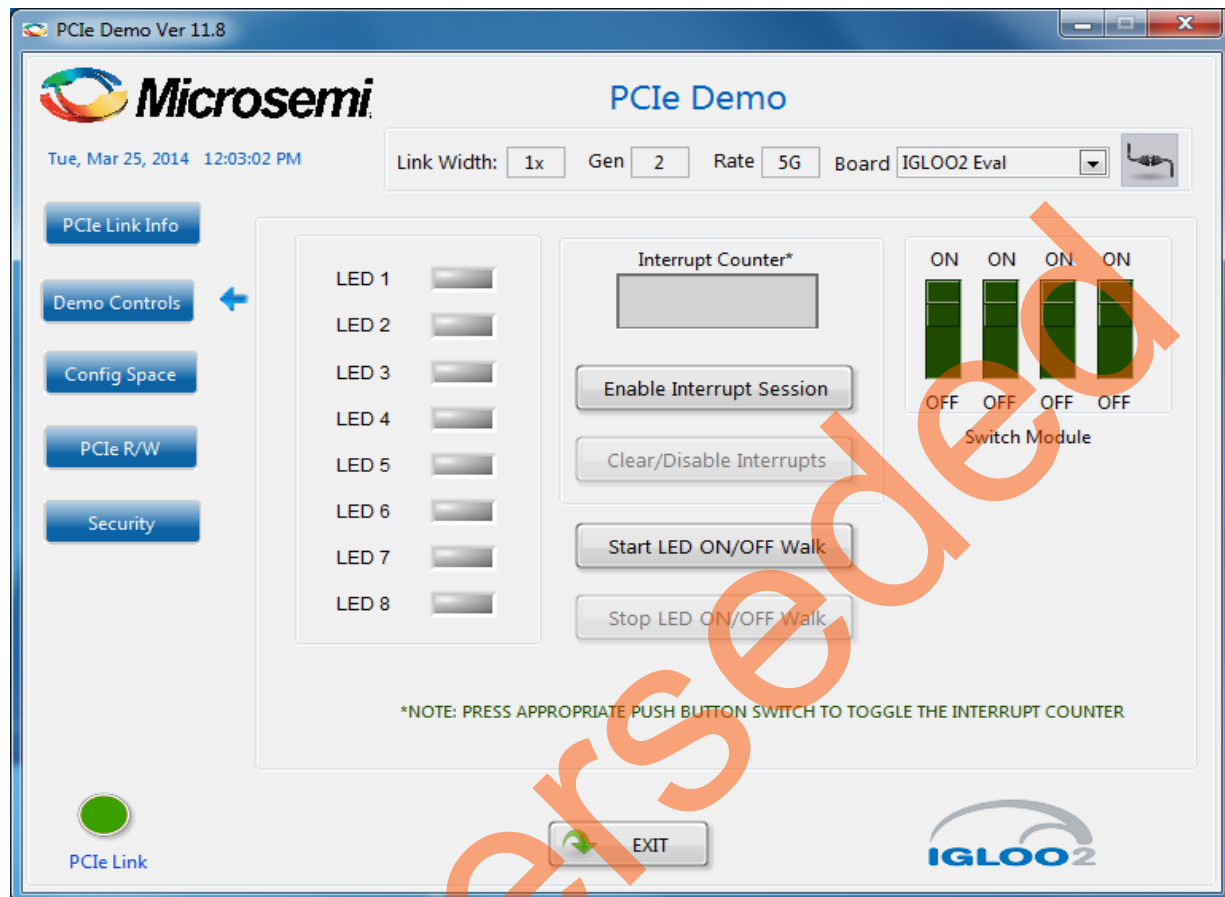

Figure 20 • Demo Controls
- Clicking **Demo Controls** in the GUI displays the LEDs options and DIP switch status as shown in Figure 20.